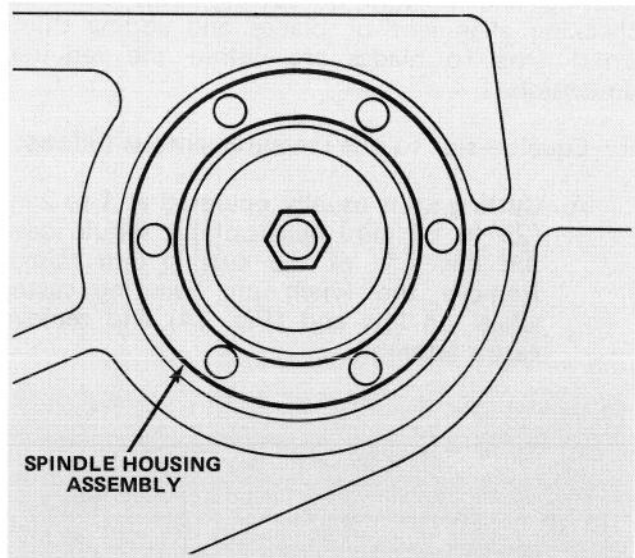

Figure 18
3. Remove six carriage bolts and flange nuts holding spindle housing assembly and support ring against cutting unit (Fig. 18). Slide spindle housing assembly out bottom of cutting unit.